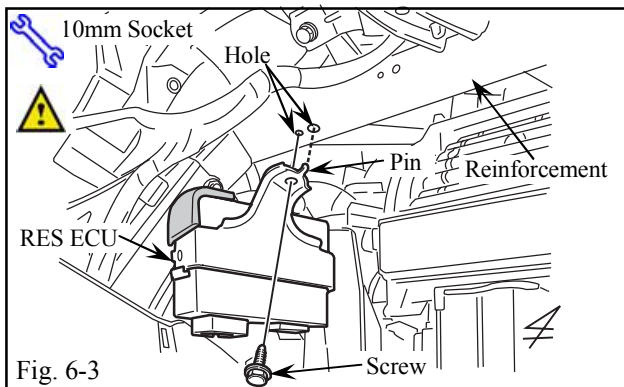

Fig. 6-3
- (c) Using the Screw from the Kit, install the RES ECU Bracket. (Fig. 6-3)
- (1) Make sure that the bracket pin seats properly.
- (2) Do not over tighten the Screw.